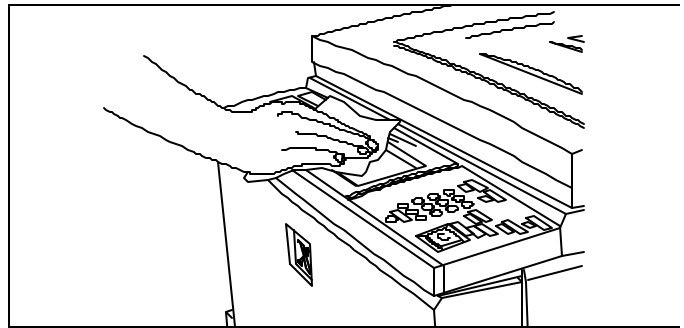

Figure 22
1. See Figure 22. Wipe the touch screen with a clean, lint free cloth.